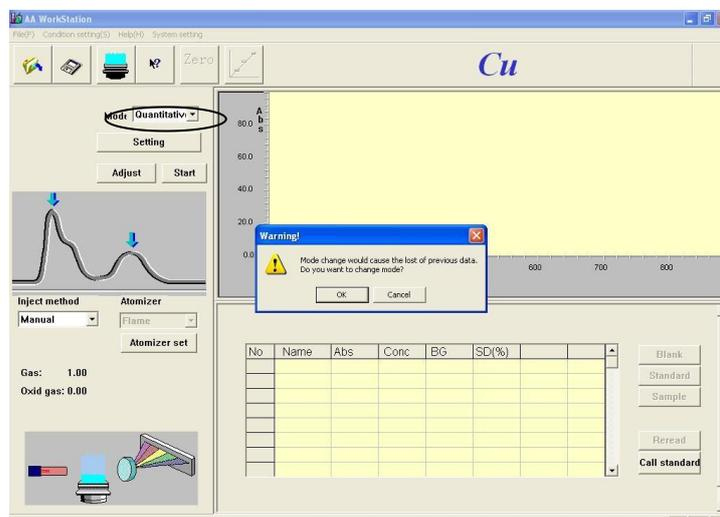

Figure 5-7
4. As shown in Figure 5-7, select "Quantitative analysis" in the pull-down list. Press "OK" to confirm that you are about to conduct quantitative analysis.